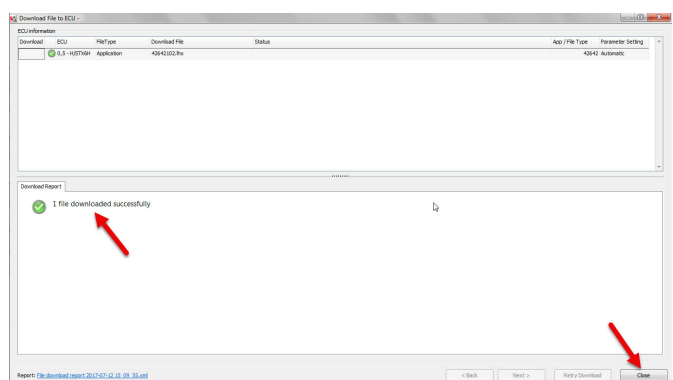

Figure 24. Download Successful Screen
8. Verify that the download was successful and click "Close" button (Figure 24).